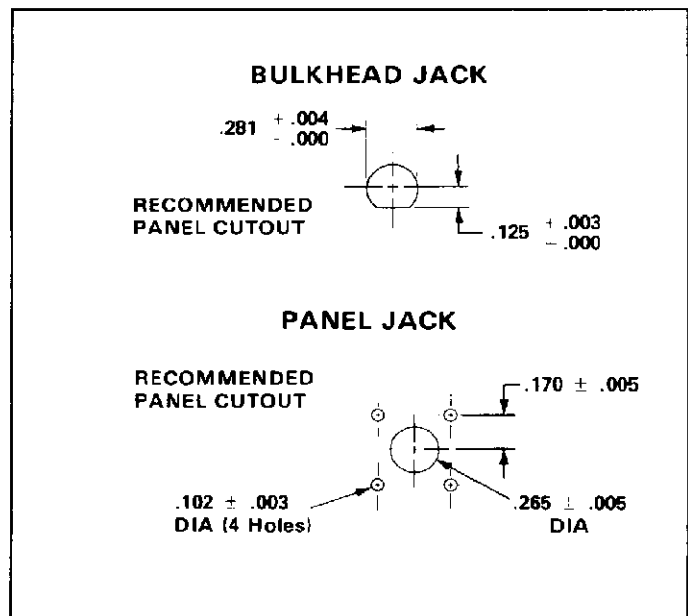

Fig. 4
6. When using bulkhead jack and panel jack connections, refer to the dimensions in Figure 4 to make the panel cutouts.